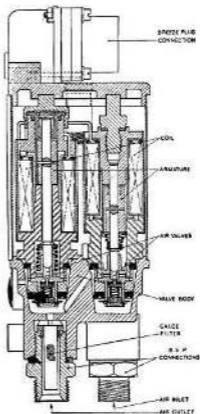
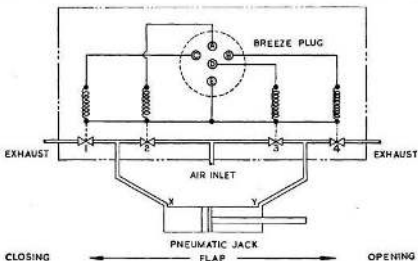

Fig. 2. Sectional view of electro-pneumatic valve, Type FDH
Fig. 3. Diagram of operation and wiring
3. A sectional view of the valve is given in fig. 2, and a diagram showing its operation in conjunction with a double-acting jack, in fig. 3. In this diagram it is assumed that the jack extends to open a flap or shutter. The four solenoid-operated air valves (1), (2), (3), and (4) are mounted into a common body ducted internally. The breeze plug pin E is connected to negative, and pins A, B, C and D through suitable switching to the positive supply. Air inlet valves (2) and (3) are normally closed, and exhaust valves (1) and (4) are normally open.
4. The normal working operations are shown in Table 1. In an installation where it is necessary for the jack to retract to open the flap, the connections X and Y in fig. 3 should be reversed. In the event of a current failure, the two high-pressure inlet valves